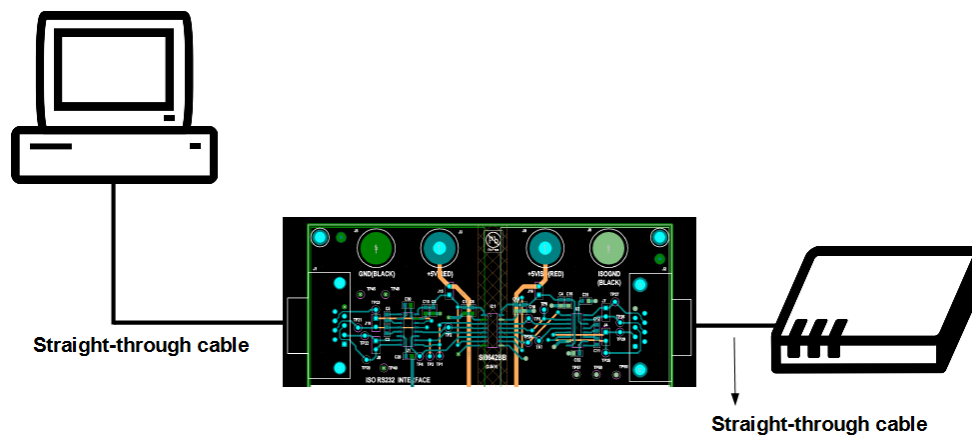

Figure 6. DTE to DCE Connection
3. On the J2 side, use straight-through cable when connecting to DCE (Modem) and crossover cable when connecting to DTE (PC, printers, PLCs etc). Refer to Figures 6 and 7.